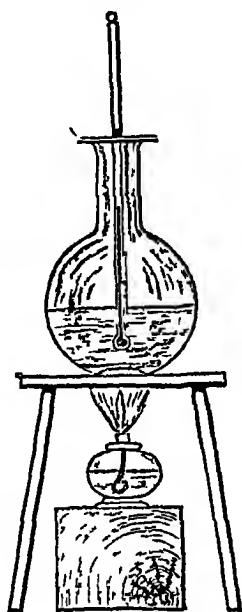

FIG 20
(1) Every substance begins to melt at a certain definite temperature, if the pressure remain constant
(2) From the time fusion begins, until the time it is completed, the temperature remains constant
**To find the melting-point of wax.**—Draw out a piece of glass tubing, suck a small piece of melted wax into the fine end, when the wax sets, close the end with a small flame. Cut off about 2" of the fine tube, and fasten it by an india-rubber band to the thermometer, place the thermometer in a flask of water (fig 20). Apply heat to the flask, and note the temperature at which the wax melts. Remove the flame, and again note the temperature when it begins to solidify. The mean of these two temperatures is the melting-point.